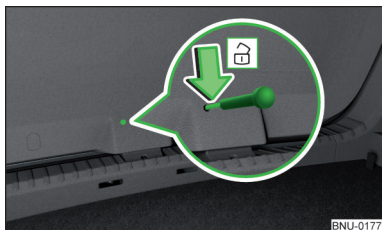

Fig. 335
- › Insert a screwdriver or similar tool into the opening in the trim » Fig. 335 as far as the latch.